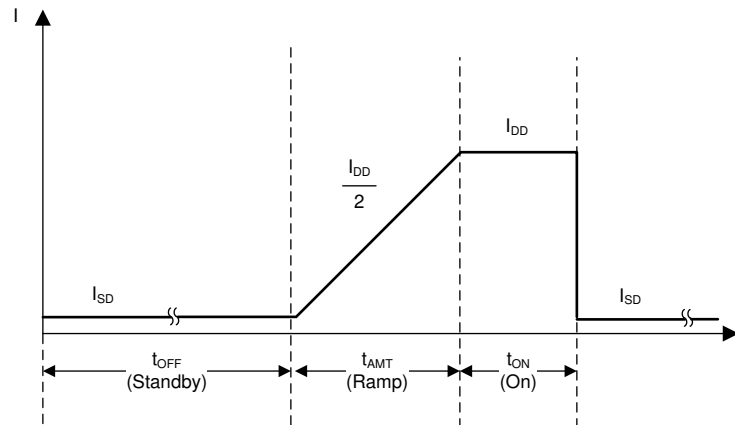

图 7-7. LDC0851 Supply Current vs. Time During Duty Cycle Operation
In order to achieve 10 year lifetime out of a single CR2032 battery, the enable pin (EN) of the LDC0851 can be duty cycled to achieve a low average supply current. Refer to 图 7-7 to see the three different states of LDC0851 supply current during duty cycle operation. The sum of the Standby, Ramp, and On currents can be used to calculate the average supply current of the LDC0851, which needs to be below 2.5  $\mu\text{A}$  to achieve a 10 year lifetime from a 220 mAh CR2032 battery.